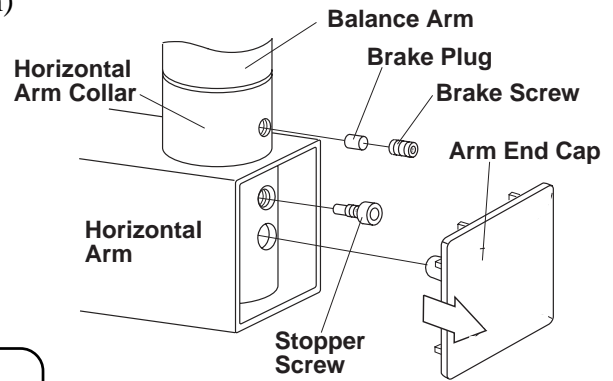

Fig.3-13 Attaching Balance Arm to Horizontal Arm
7. Insert the brake plug and brake screw (M6 x 6mm) into the horizontal arm collar. (Fig.3-13)
Replace the end cap. (Fig.3-13)
If the end of the horizontal arm shown in position #1 is pitched below level, then the tube head will drift away from the wall. If the end of the horizontal arm in position #1 is pitched above level, then the arm will require only minimum adjustment of the brake screw. (Fig.3-13)